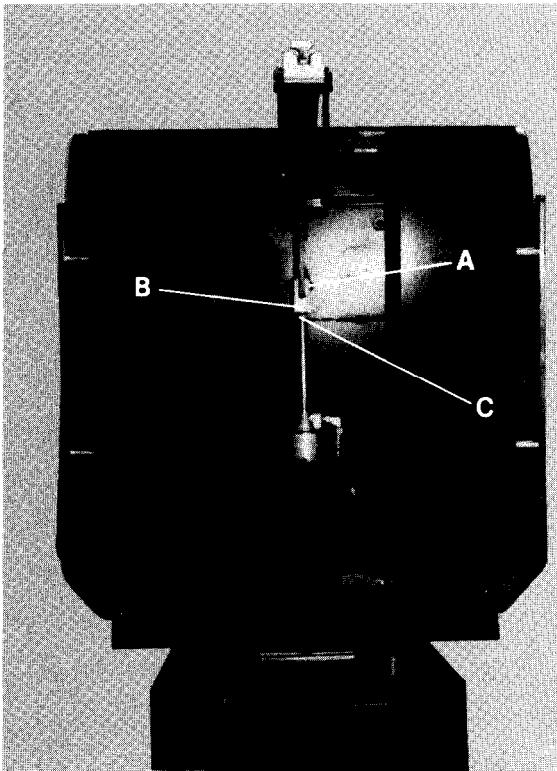
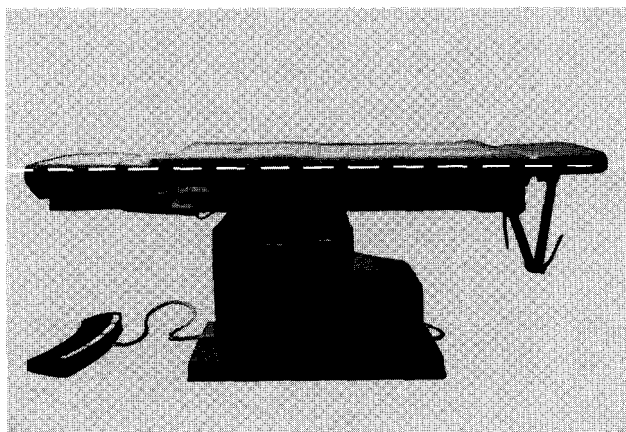
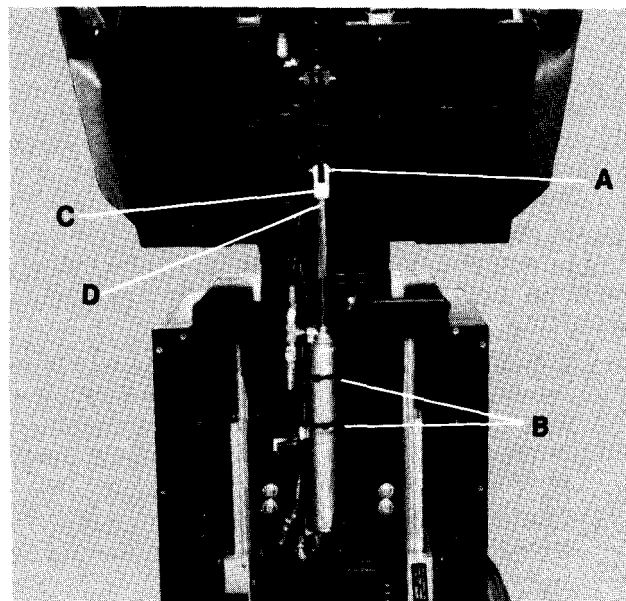
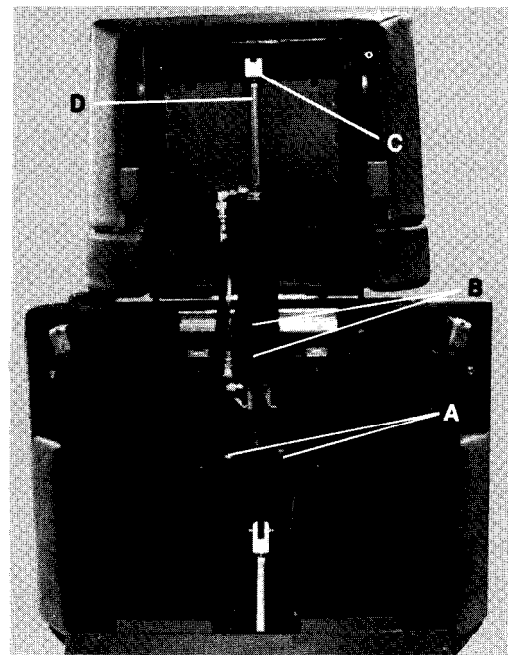

Fig. 24 Model 111 and 114 Shown
Fig. 26
Fig. 27
Fig. 28 Model 111 & 114
- 3) With an assistant supporting the Back Section, remove the "E" Ring and Clevis Pin, Item "A", Fig. 24. Let Cylinder hang by clevis.
- 15) Position the back section and back cylinder as shown in Fig. 24 and install clevis pin and "E" ring, Item A, Fig. 24.
- 17) Position the table as shown in Fig. 26. The table top should be level. If the back section tilts down, then adjust the clevis, Item B, Fig. 24 out. If the back section tilts up, then adjust the clevis, Item "B", Fig. 24 in. To adjust the clevis, turn the cylinder rod using a 3/8" open end wrench. The rod will turn easiest when it is extended about half of its total extension.
TRICAL SHOCK OR EQUIPMENT DAMAGE. See Fig. 27
- 2) With an assistant supporting the table top, remove the "E" ring and clevis pin, Item A, Fig. 27.
- 3) Remove the (2) large nylon ties, Item B, Fig. 27, from the cylinder.
- 4) While supporting the defective cylinder, remove (4) hose fittings from the cylinder using 9/16" and 7/16" wrenches. Remove the "E" ring and clevis pin from valve end of cylinder to remove from the table. Remove fittings from cylinder ports and install in new cylinder making sure safety cable is reinstalled.
- 7) Install nylon ties, Item B, Fig. 27 on the cylinder.
- 12) Position the table top and tilt cylinder as shown in Fig. 27 and install clevis pin and "E" ring, Item A, Fig. 27.
- 14) Position the table as shown in Fig. 26. The table top should be level. If the top is not level, the clevis, Item C, Fig. 27, must be adjusted in or out accordingly. To adjust the clevis, turn the cylinder rod using a 3/8" open end wrench on the wrenching flats, Item D, Fig. 27. The rod will turn easiest when it is extended about half of its total extension.
- 1) Position the table as shown in Fig. 28 or 28A by running tilt and foot up.
- 3) Loosen hose clamps, Item A, Fig. 28 or 28A.
- 4) Remove (2) cable ties from cylinder, Item B, Fig. 28 or 28A.
- 5) Remove the (2) hose fittings from the defective cylinder using 7/16" and 9/16" wrenches.
- 13) Temporarily plug the power cord into an electrical outlet and position the table as shown in Fig. 26. The table top should be level. If the top is not level, the clevis, Item C, Fig. 28 or 28A, must be adjusted in or out accordingly. To adjust the clevis, turn the cylinder rod using a 3/8" open end wrench on the wrenching flats, Item D, Fig. 28 or 28A. The rod will turn easiest when it is extended about half of its total extension.